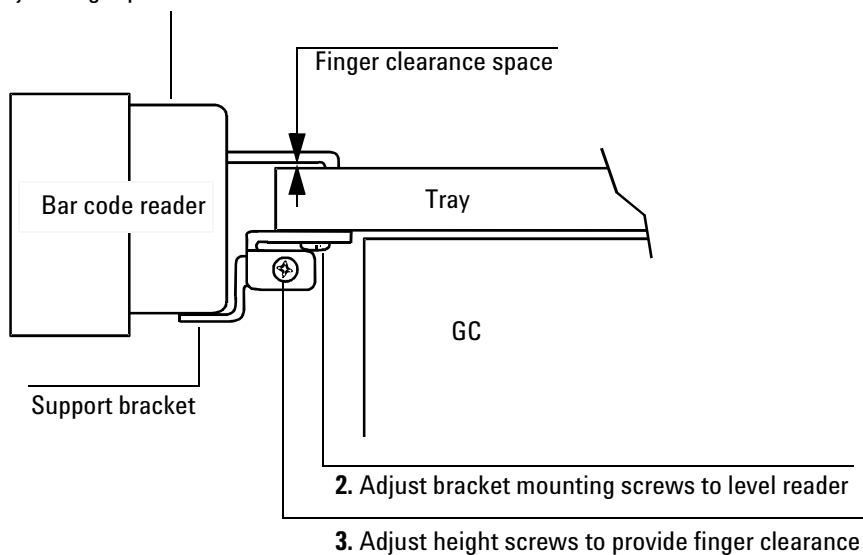

Figure 8. Adjustment summary
Figure 8 summarizes the adjustments that you will make.
1. With the BCR hanging on the tray (see Figure 8), confirm that the BCR position can be easily adjusted from touching the edge of the tray to a clearance of about 5 mm.